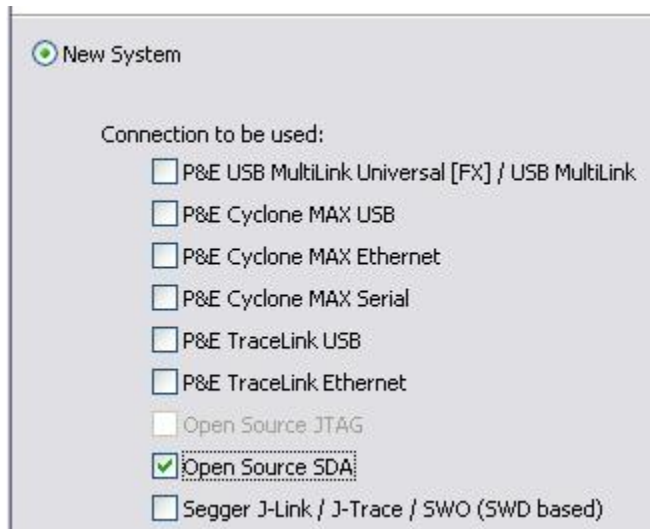

Figure 12. Selecting connection
- The following step allows you to choose the connection. The Freedom – KL25Z board uses the Open source SDA connection and this must be selected. See Figure 12. Click Next >.